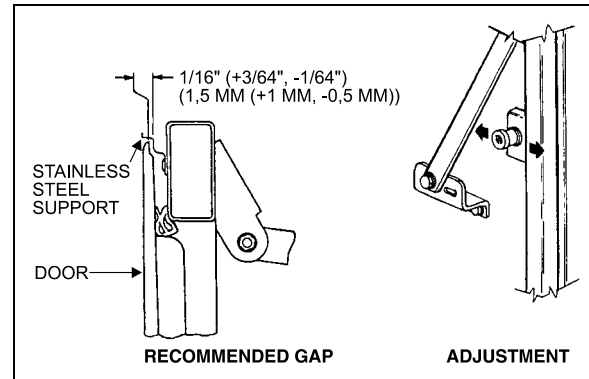

FIGURE 58: BAGGAGE COMPARTMENT DOOR 18069
6. Loosen the striker pins just enough to allow them to be moved with a hammer. Working from inside compartment and with the door closed (lower catches engaged), hit the pin washers to horizontally move the pins and consequently the door, while an outside assistant checks the fit. A gap of $1/16'' + 3/64''$, $-1/64''$ (1,5mm +1mm, -0,5mm) between the stainless steel support for the lateral panel and the door panel lip is recommended (Fig. 58).